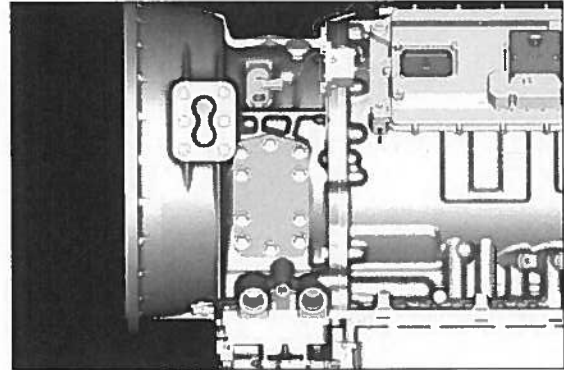

Fig. 23
1. Remove the PTO aperture plate with a 16mm socket (**Fig. 23**).